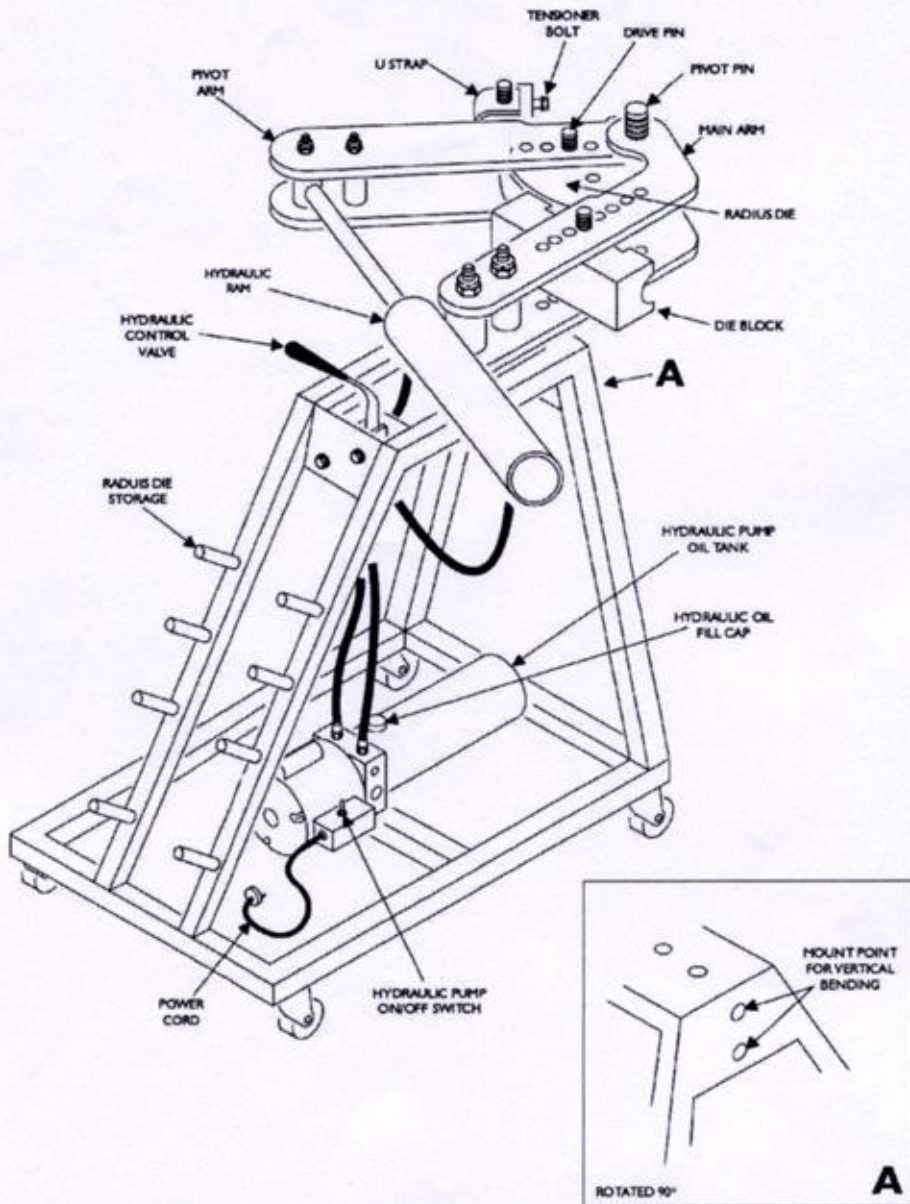

Figure 1. Bender overall view.
4. Using the control valve(down to extend and up to retract), cycle the bender cylinder several times while adding the remaining 1/2 gallon of hydraulic oil. The reservoir will hold exactly 1 gallon of hydraulic oil. See Figure 1.